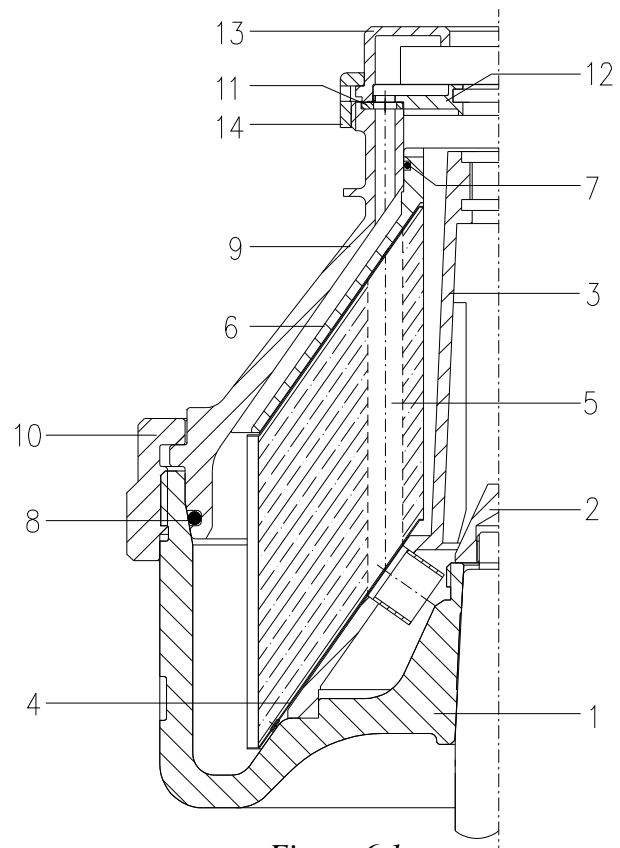
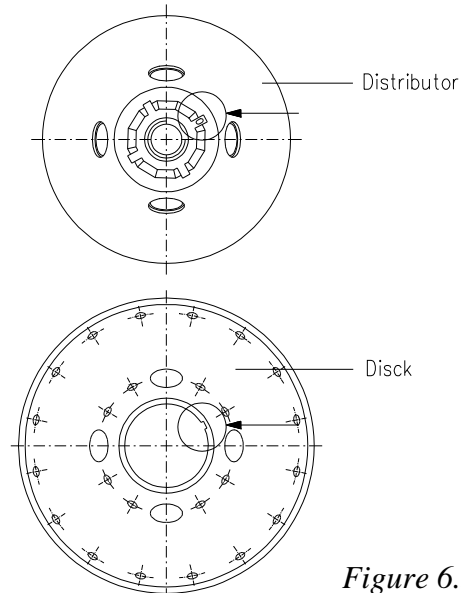
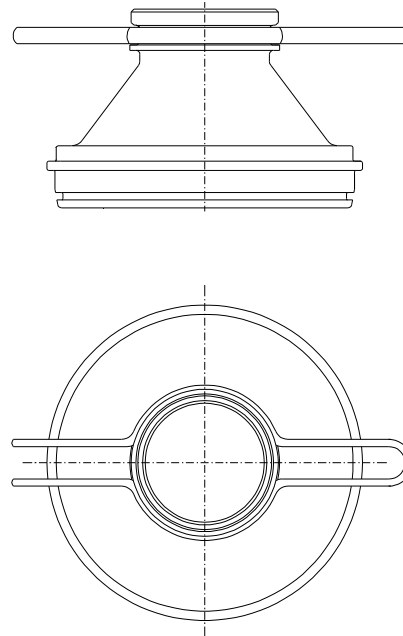

Figure 6.1
Figure 6.5
Figure 6.7
The bowl is supplied separately from the rest of the machine, so before setting at work the machine, it must be dismantled and assembled on vertical shaft in the frame. The bowl, rotating at high speed, is subjected at high stress that could compromise the operating safety of separator in case the bowl has been improperly assembled and cleaned. In *Figure 6.1* are shown all the main pieces of the bowl.
- Every part must be correctly positioned; almost all bowl parts have an angular position fixed by pins or feather keys - except for threaded parts and gaskets (Figure 6.1 - parts 2, 7, 8, 10, 14).
- 3) By the suitable spanner (09.040.0), screw tight the **bowl body nut** (part 2 in fig. 6.1). Remind that it has left-handed thread.
- 5) Insert the **disks**. The disks can be inserted in the distributor only in one way. As shown in Fig. 6.5, over the distributor is marked a big “O” that must be aligned with “O” mark of the bowl body. The disk must be inserted in such a way that the small slot made on the internal upper edge of the disk glide on the distributor fin marked with the “O”. Insert at first the **bottom disk** (Fig. 6.1, part 4) that distinguishes itself by having spacers on both surfaces. Then insert the intermediate disk (Fig 6.1, part 5). Take care to not change the sequence of the disks.
- 6) Place down the **upper finned disk** (fig 6.1, part 6) this the last disk to be inserted.
- 7) After carefully cleaning the groove, insert the OR gaskets on upper finned disk (fig 6.1, part 7).
- 8) After carefully cleaning the groove, insert the OR gaskets on bowl hood (fig 6.1, part 8).
10) By the spanner (09.010.0), place down the **bowl hood** (fig 6.1 - part 9). Proceed as follows (fig 6.7):
12) By the spanner (09.020.0) screw the **big lock ring** (fig 6.1 - part 10) that has left-handed thread. It must be possible screw by hands the ring until the “0” mark is at least 1 cm. before the “0” mark of the bowl body (if this does not happen, it means that the assembly is not correct or the number of disks is wrong). Then fasten it down as much as possible by striking with mallet (09.030.0) the spanner handle. Now the “0” marks must be aligned. In case the bowl is not new and the parts start being worn, the “0” mark of the ring will go beyond the “0” mark of the bowl body. The distance between the two references must not exceed 3 cm.
- 9) By the spanner (09.010.0), extract the **bowl hood** (fig. 6.7). Proceed as follows: